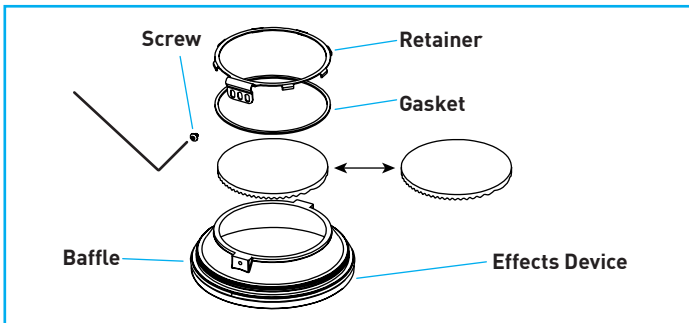

Fig.39
C. To change lens / film, remove lens retainer and gasket by loosening and removing screw. Insert preferred lens / film in proper orientation, securing with lens retainer / gasket and replacing and tightening screws "Fig.39".